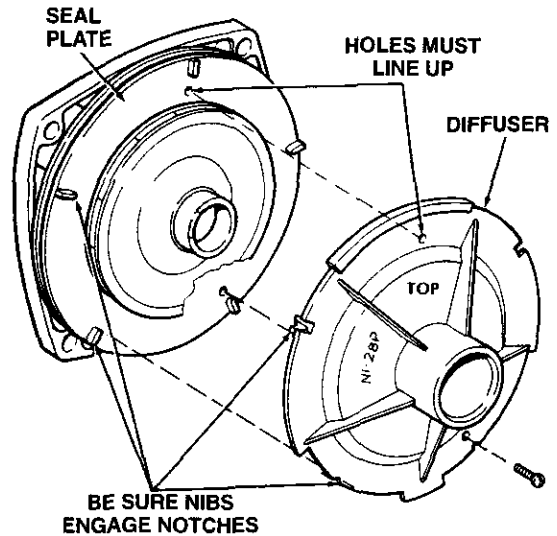

Figure 13
- J. Remount diffuser on seal plate. Be sure diffuser is right side up as follows (see Figures 13 and 14).